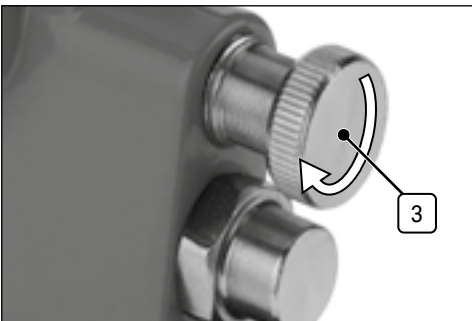

Fig. 7
2. Rotate the fluid control dial **3** clockwise as far as possible to close the fluid valve (Fig. 7).